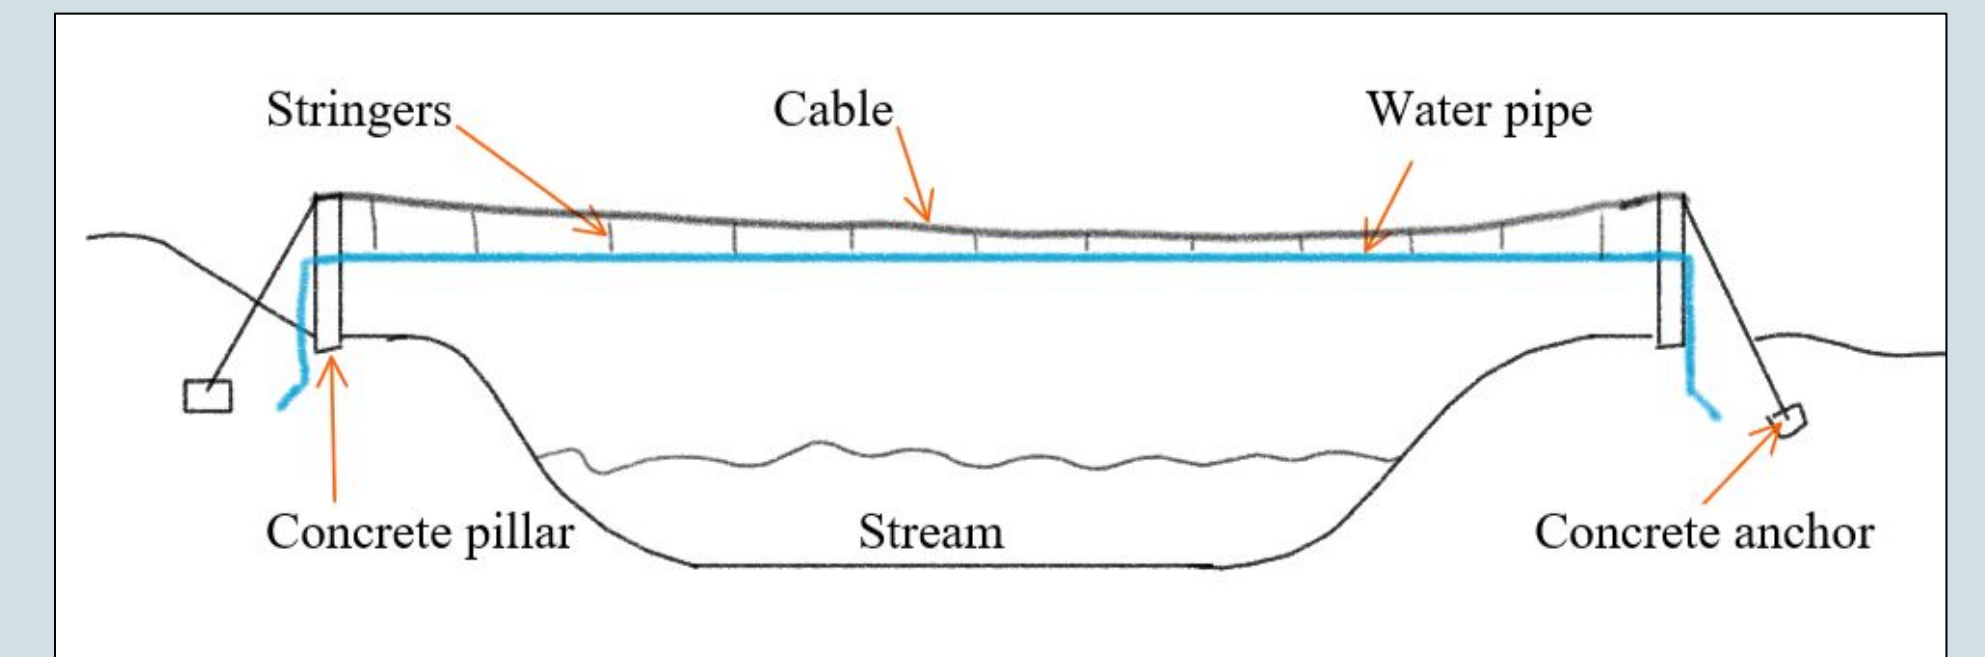

Figure 13: Pipe Crossings
- Pipe will be suspended by cable and stringers (Fig. 13)